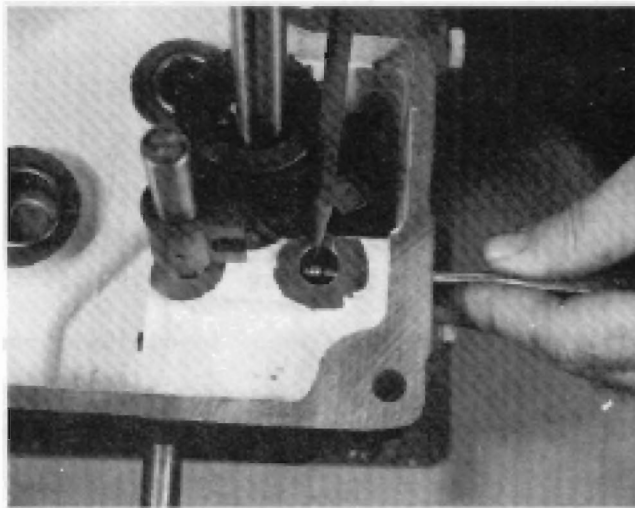
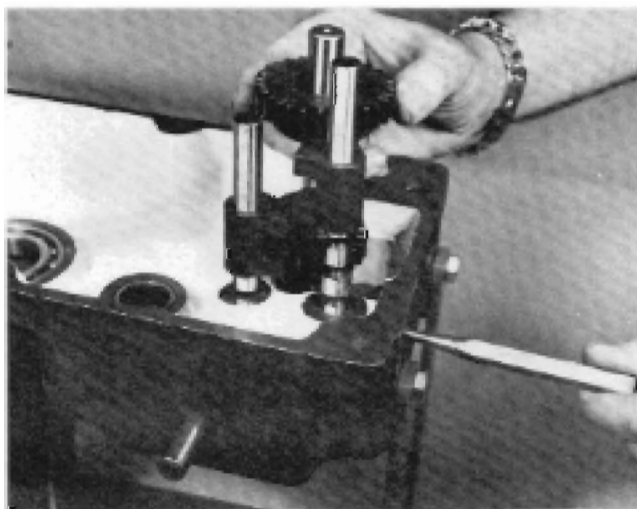
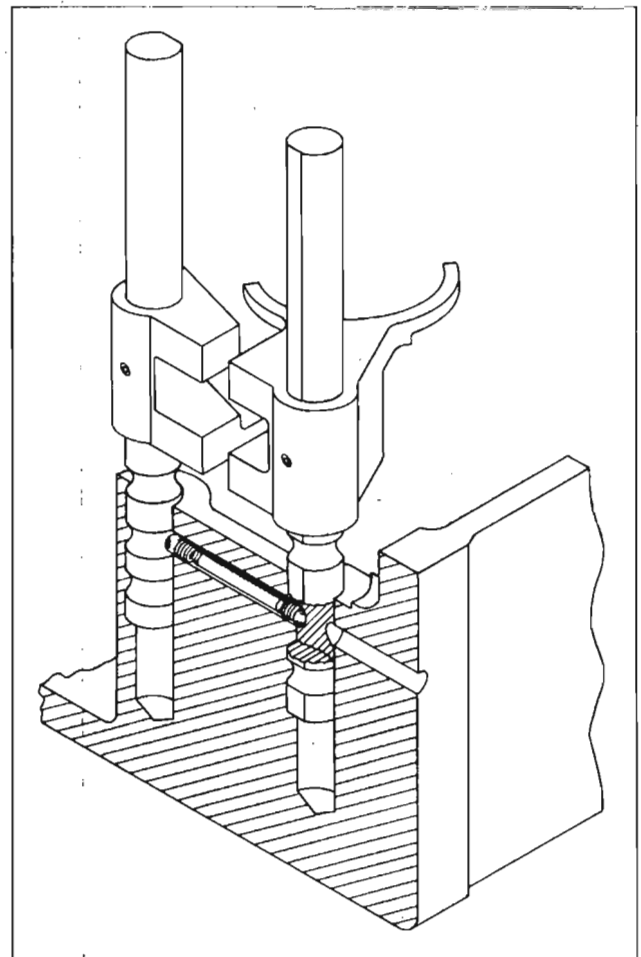

FIGURE 14
FIGURE 15
FIGURE 17
12. Install the 2nd stop ball and using a punch, push the ball in against the spring. Move the installed shift rail into the neutral position and continue to push on the punch (Figure 14) until the ball is flush with the shift rail bore. At the same time insert the low and reverse shift rail and fork assembly together with the low and reverse sliding gear, (Figure 15) removing the punch as the shift rail passes the ball. See detent drawing Figure 17. Note: The low and reverse gear fits down over the input shaft with the shift fork groove down.